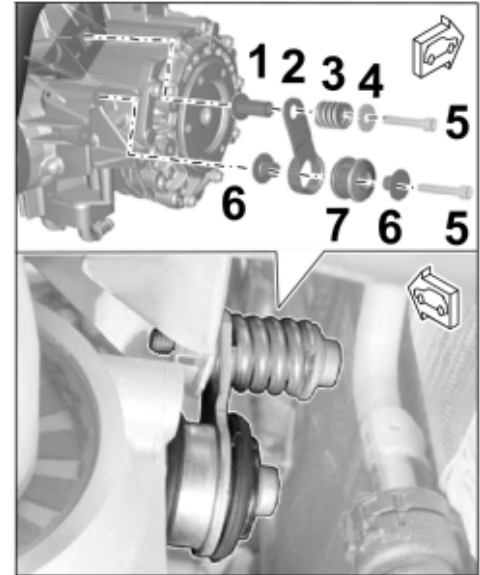

Figure 40
- 4.1.1 Install new exhaust pipe with a new seal and new spring/tab assembly (\Rightarrow Figure 40). \Rightarrow Workshop Manual '261719 Removing and installing exhaust pipe - T9I'